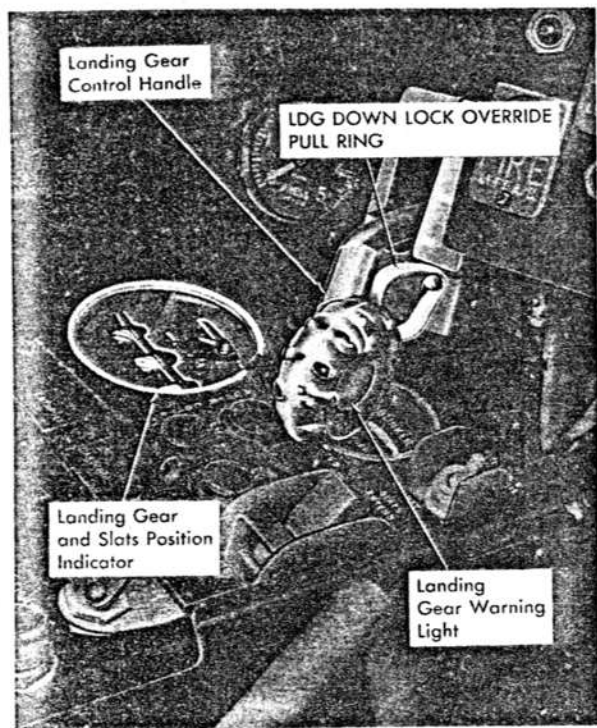

Figure 1-27. Main and Nose Landing Gear System Indicator and Controls
**LANDING GEAR CONTROL HANDLE.** The tire-shaped landing gear control handle (figure 1-27) extends through an opening in the inclined panel of the left-hand console. When the airplane is on the ground, the handle is locked in "WHEELS DN" by a lock pin controlled by an electrical solenoid. When the airplane is airborne, a switch in the right-hand main gear is actuated as the strut extends. This energizes the handle lock circuit and the locking pin is retracted to unlock the handle.
**LANDING GEAR DOWN LOCK OVERRIDE PULL RING.** The LDG DOWN LOCK OVERRIDE PULL RING (figure 1-27) is located just below the landing gear handle. When pulled outward, it manually retracts the lock pin holding the landing gear control handle in "WHEELS DN."
**LANDING GEAR AND SLATS POSITION INDICATOR.** The landing gear and slats position indicator (figure 1-27) is located on the left-hand console. The indicator has three windows, one for each gear. The word "UP" appears in each window when its respective gear is up and locked. Miniature wheels appear when the gears are down and locked. Red-shaded areas appear as the gear is retracted or extended or when electrical power is off. Electrical power for the landing gear and slats position indicator circuit is received from the primary bus and the circuit is protected by a circuit breaker on the left-hand console.
**LANDING GEAR WARNING LIGHT.** The red landing gear warning light (figure 1-27) is located in the tire-shaped plastic end of the landing gear control handle. The light is illuminated as the gear is extended or retracted and remains on until each of the three gears is locked in its correct position.